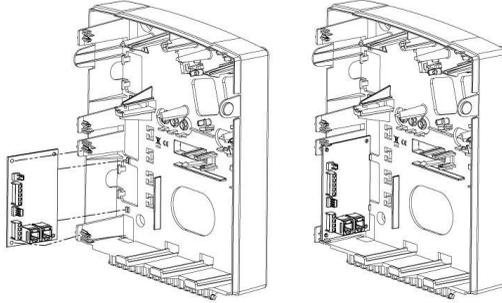

Figure 3-3: Zone Expander mounting location inside the LightSYS box
4. Mount the Utility Output Expansion Modules in the main panel cabinet, depending on space availability or in a separate cabinet (see Figure 3-3) .